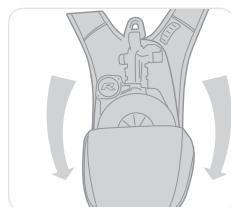

Figure 5
- Open the backpack containing the descent device (Figure 5).